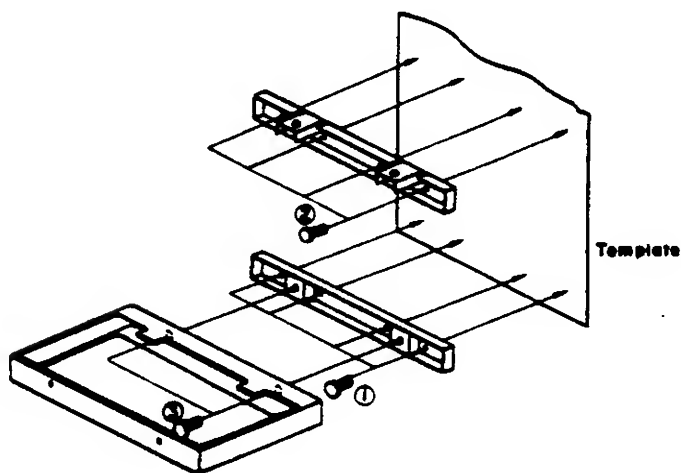

Figure 240-1 Wall Mounting Bracket and CCU Base Panel
Install the wall mounting metal brackets as shown in Figure 240-1, using the eight locally provided fasteners.
Mount the base panel onto the lower bracket using the two screws removed in step F. (See Figure 240-1).
J. Mount the metal bracket using four locally provided fasteners as outlined with the template. Refer to Figure 240-1.